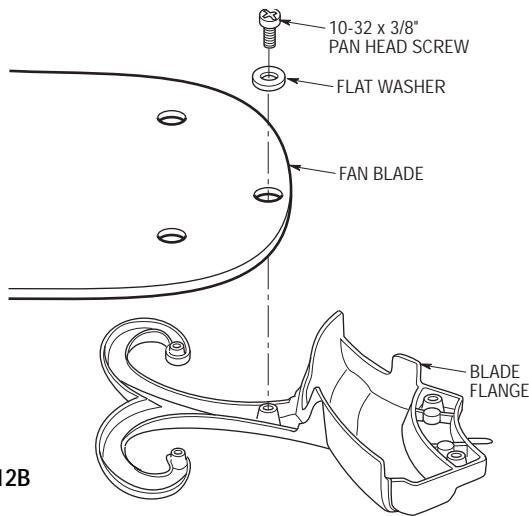

Figure 12B
- 19. Use three 10-32 x 3/8" pan head screws and flat washers (supplied) to secure the flange to the blade (ordered separately) (Figure 12B). Repeat for the four remaining blades.